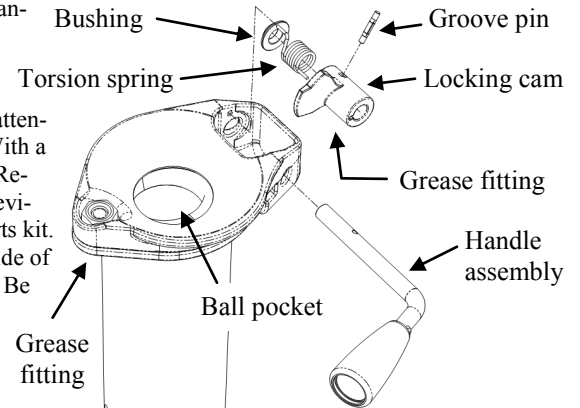

Figure 1
1. Loosen set bolts, remove load bearing pin and lower coupler assembly from trailer. With ball pocket facing up (Fig. 1), take visual note of the parts and their orientation, paying particular attention to the function of the handle and locking cam. Rotate handle exposing the groove pin. With a punch, remove the groove pin and slide handle from the coupler. Remove and discard all old parts. **DO NOT** reassemble using any previously existing parts—only use components supplied within the parts kit.